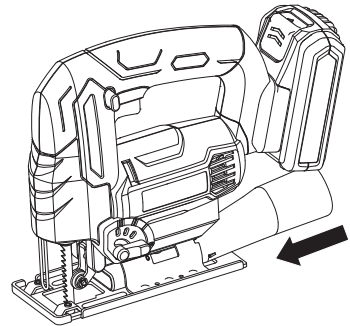

Fig. D1
5. DUST TUBE (SEE FIG. D1, D2)